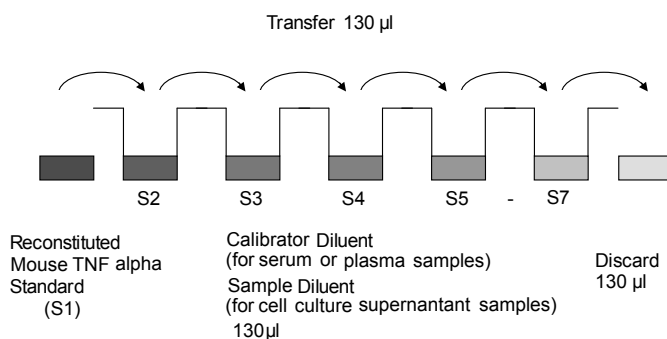

Fig. 6 Dilute standards - tubes
5. Repeat serial dilutions 4 more times thus creating the points of the standard curve (see Figure 6).